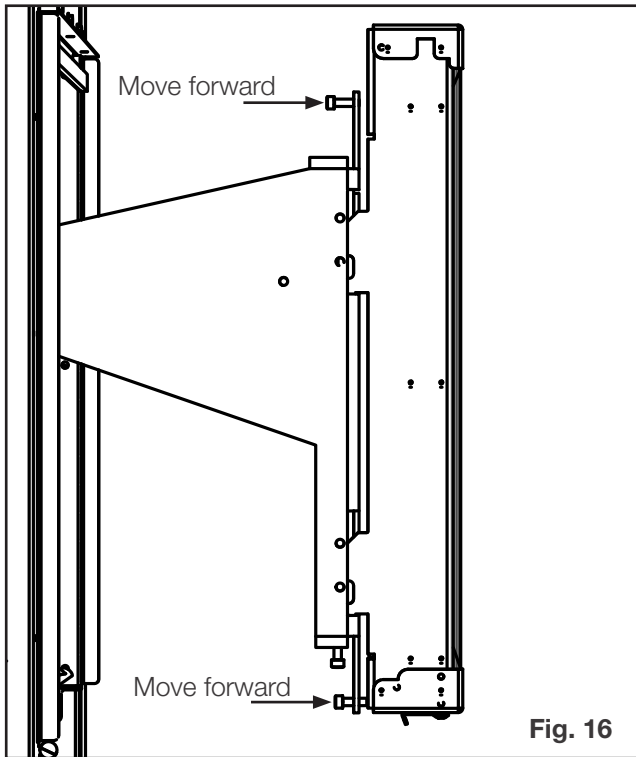

Fig. 16
12. Check if the GGA plane is straight. Adjust with horizontal adjustment screws on both ends, if necessary (**Fig. 16**).